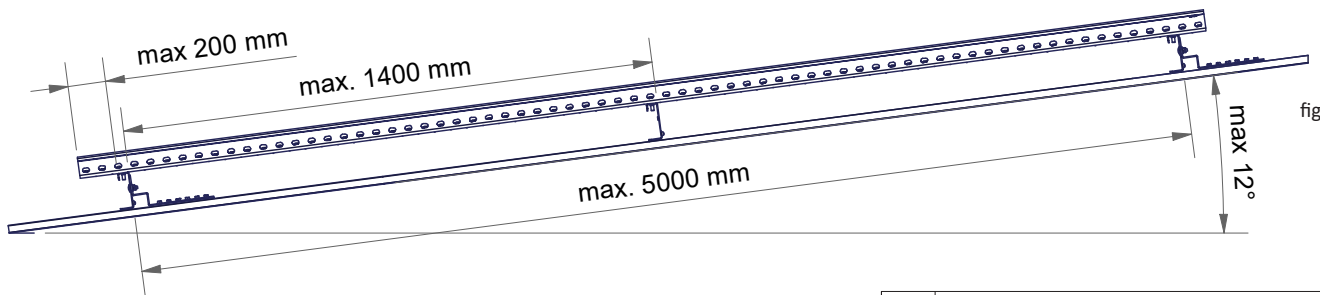

figure 2
Roof walkway must be attached to the structures of the roof at the top and bottom ends (maximum distance between steel roof fixing rods (12) is 5000 mm). Roof walkway must be supported to the roof surface with Pisko MultiFast fasteners, spaced max 1400 mm apart. The maximum overhang of the roof walkway from the outermost fastener is 200 mm (figure 2).